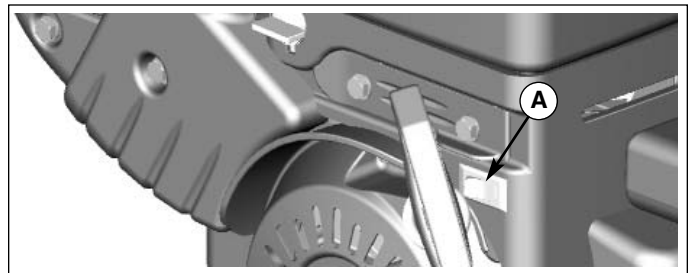

Figure 2. Engine Start/Stop
3. Push the stop switch (A, Figure 2), if equipped, to the ON position.
1. Move the stop switch (A, Figure 2), if equipped, to the STOP position.